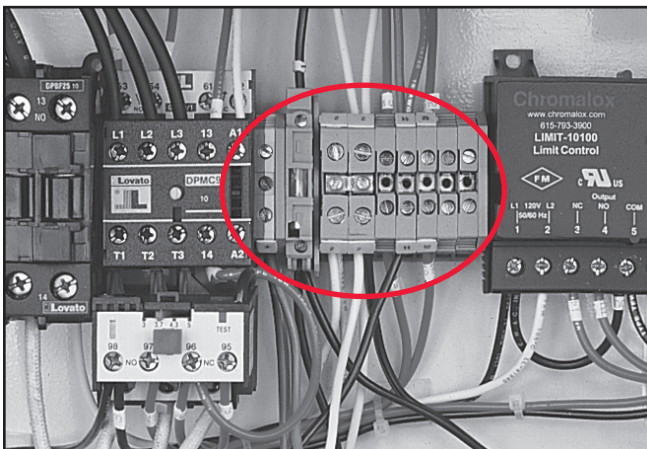

Figure 2.5 Power Connection Terminals
2. Open the front electrical enclosure door. Using 90°C wire sized per National and local codes, run each leg of the three phase supply power and ground to the appropriate terminals as shown in Figure 2.5.
Terminal block #1 (see Figure 2.5) contains a 120V fuse for the control circuitry. This fuse protects the control transformer and circuitry.